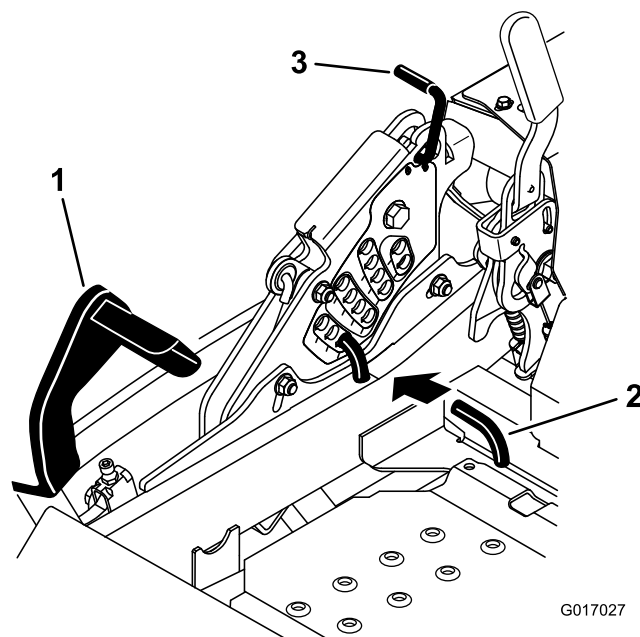

Figure 26
2. Push on the deck lift pedal with your foot and raise the mower deck to the transport position (also the 140 mm (5-1/2 inch) cutting height position) (Figure 26).
3. To adjust, rotate the pin 90 degrees and remove the pin from the height-of-cut bracket (Figure 26).
4. Select a hole in the height-of-cut bracket corresponding to the height-of-cut desired and, insert the pin (Figure 26).